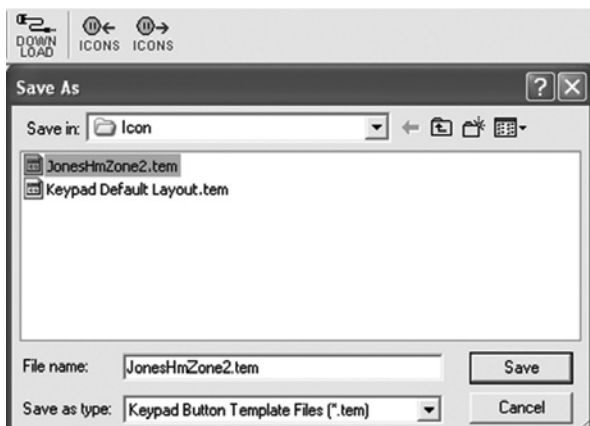

Figure 29 Exporting and Saving an Icon Layout Template File
2. Click the "ICONS--->" (Export) symbol in the toolbar. At this point, type a **File name** in the **Save As** pop up by which you want to identify that particular icon template (i.e., "JonesHmZone2") and then click Save. Refer to **Figure 29**.